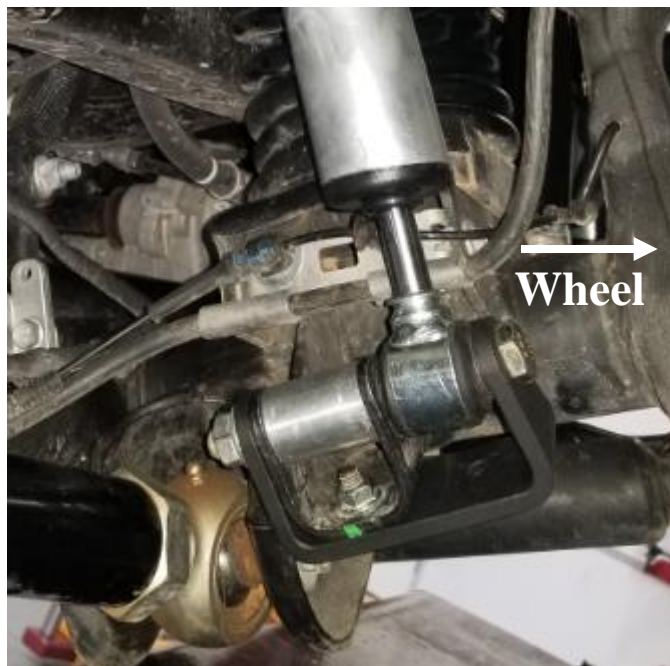

Figure 13 – Passenger side bottom mount
- W. Place the spacer in between the flanges of the OE mount. Then position the shock's lower mount outside of the OE's mount as shown in figure 13. Secure it with the M12 bolt and nut.